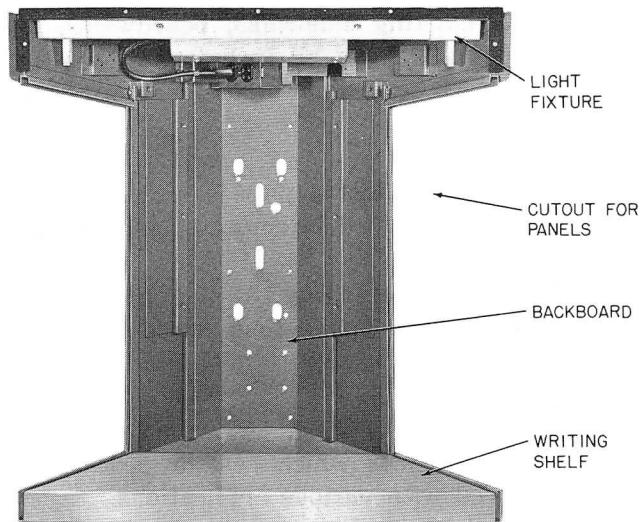

Fig. 7 — KS-19426, List 1 Housing
2.06 The basic housing (Fig. 7) consists of a top section containing a light fixture, side cut-outs for replaceable panels, an integral back-board for mounting coin telephones, and a stainless steel writing shelf.